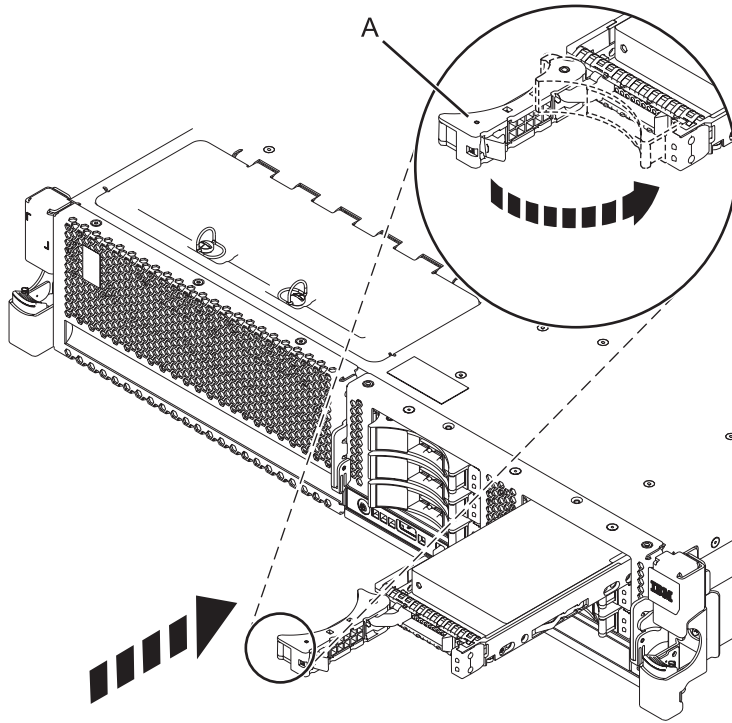

Figure 24. Installing a disk drive in the system
5. When the identify LED flashes, slide the drive all the way into the system, and push the drive handle (A) in until it locks, as shown in Figure 24 on page 41.